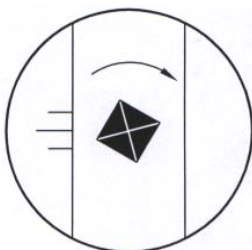

Figure 6-19 Incorrect image
5. If the image is as Figure 6-19 illustrates, you have to loosen the screw and slightly turn the indenter, conduct the step 2-4 until you get the correct image.